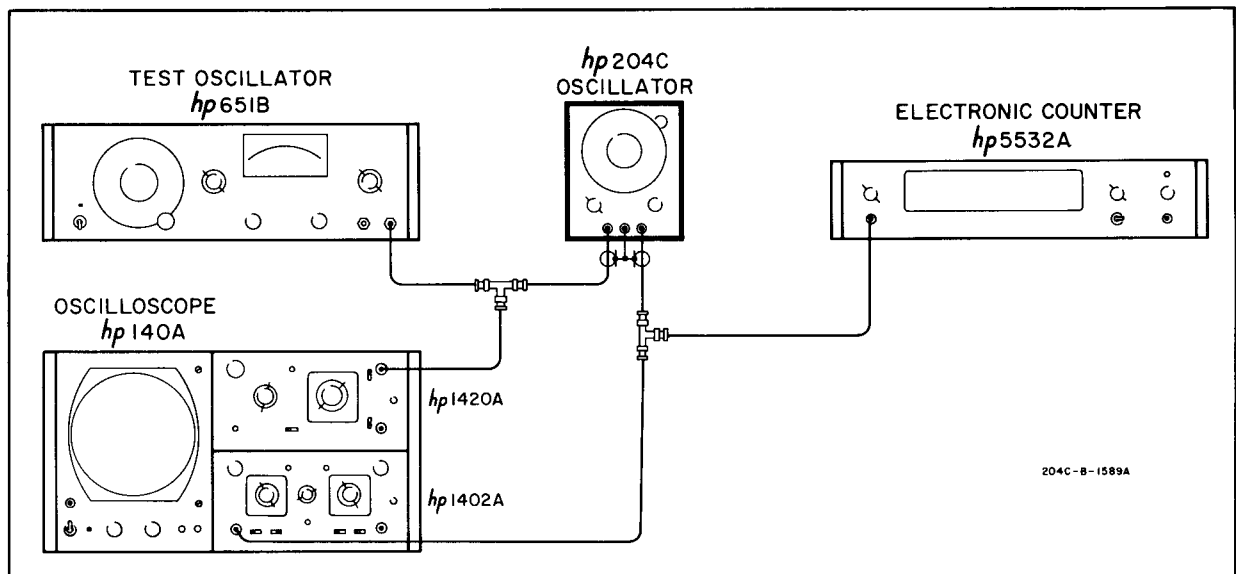

Figure 5-4. Balance Check
- d. Remove the 600 ohm load and connect the equipment as shown in Figure 5-4.